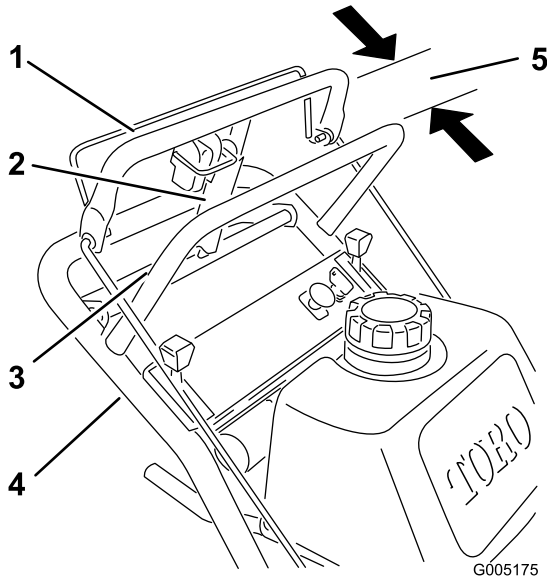

Figure 34
1. Check the gap between upper control bar and fixed bar with wheel drive fully engaged. The gap should be approximately 1 to 1-1/4 inch (25-32 mm) (Figure 34).